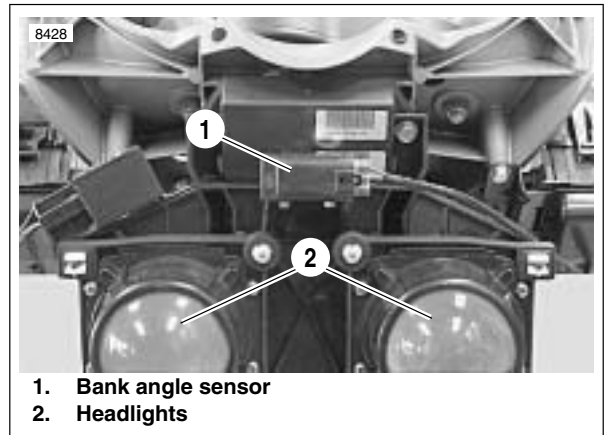

Figure 4-79. Bank Angle Sensor
4. See Figure 4-79. Unplug bank angle sensor connector [134].
3. See Figure 4-79. Install bank angle sensor connector [134].